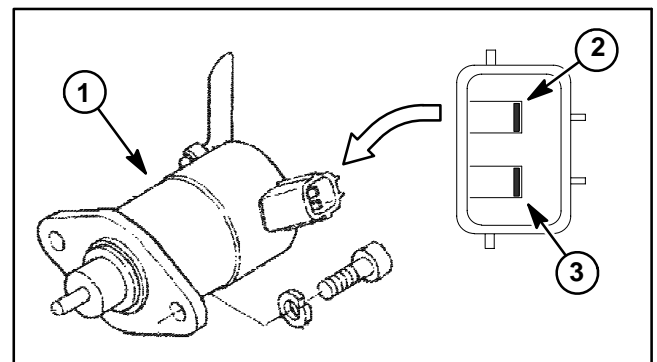

Figure 48
A. Using a digital multimeter, touch one test lead to the pull coil terminal and the other test lead to the fuel stop solenoid frame (ground) (Fig. 48). The resistance of the pull coil should be less than 1 ohm (but not zero).
B. Using a digital multimeter, touch one test lead to the hold coil terminal and the other test lead to the fuel stop solenoid frame (ground) (Fig. 48). The resistance of the hold coil should be approximately 15 ohms.